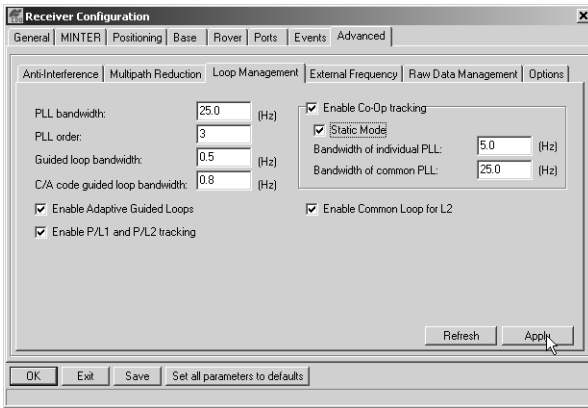

Figure 2-10. Advanced Configuration – Loop Management
6. Click the **Loop Management** tab, enable the following boxes, and click **Apply** (Figure 2-10 on page 2-13).